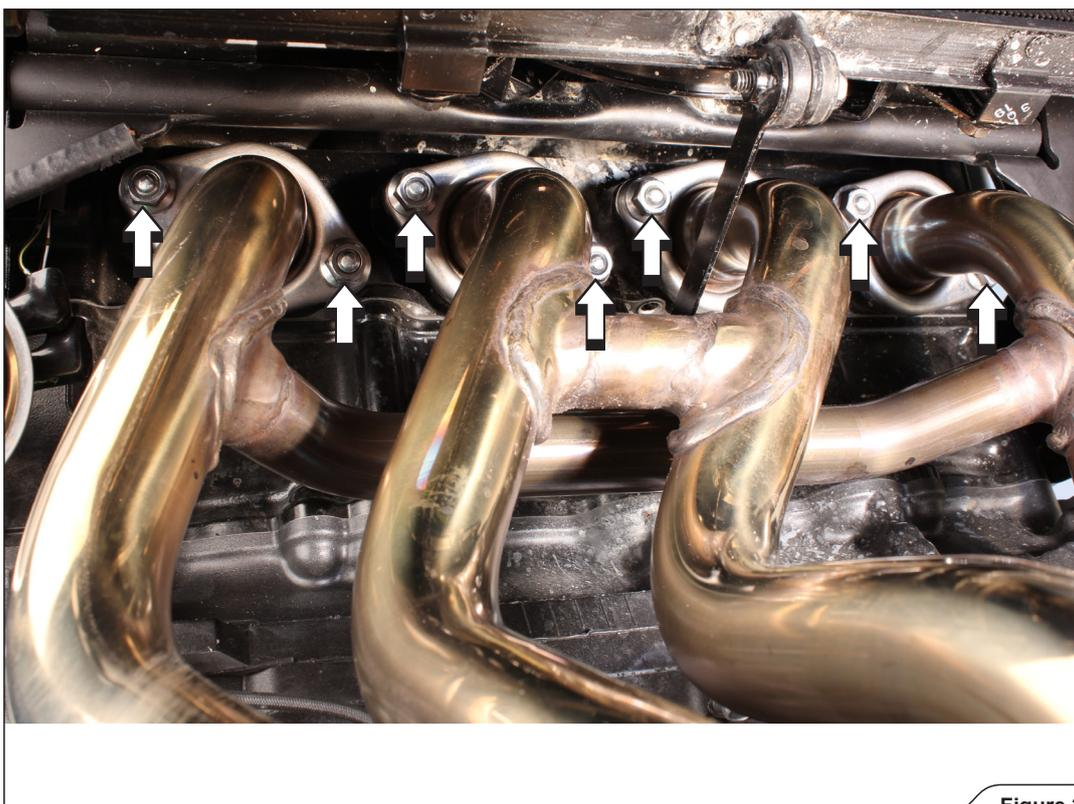

Figure 2
3. Unscrew all flange nuts and carefully remove the headers off the motorcycle (Figure 2).